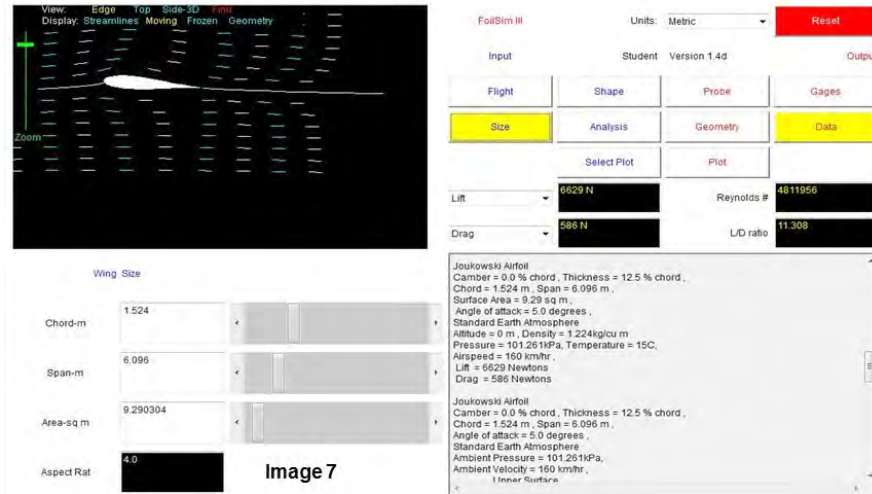

Fig. 6 Beginner's Guide to Aeronautics, NASA
3. Have the students working as individuals, pairs or teams of 4. Show the students Figure 6. Highlight the parts of the FoilSim III interactive.